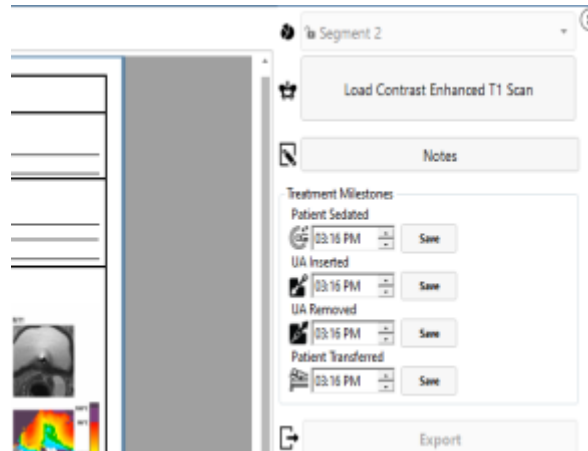

Figure 57: Treatment Milestones panel in Reports workspace
**MRI Technologist:** Use the Treatment Milestones panel in the *Reports* workspace (*Figure 57*) to record:
- The time when the Urologist removed the ultrasound applicator (UA), and